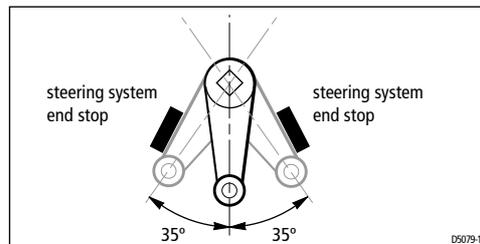

Figure 7: Total rudder movement
- The total rudder movement is limited to  $\pm 35$  degrees by the steering system end stops rather than the linear drive's end limits (see *Figure 7*).